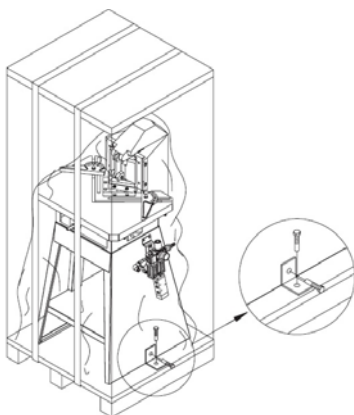

Fig. 7: Unscrew the pallet from the transport
Step 2: Remove the screws (Fig. 7) that secure the machine to the pallet.